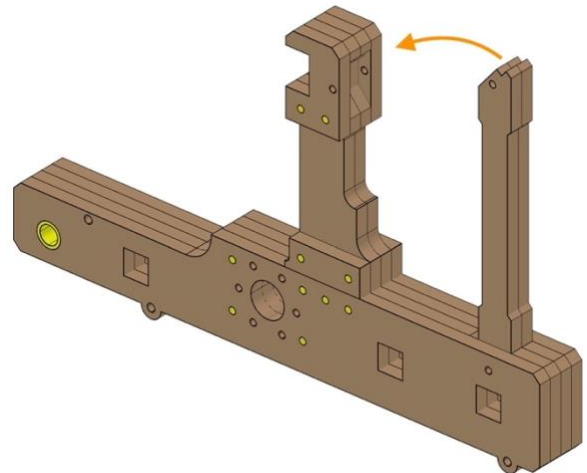

Fig. 14
- Rotate the parts as shown in *Fig. 14*.